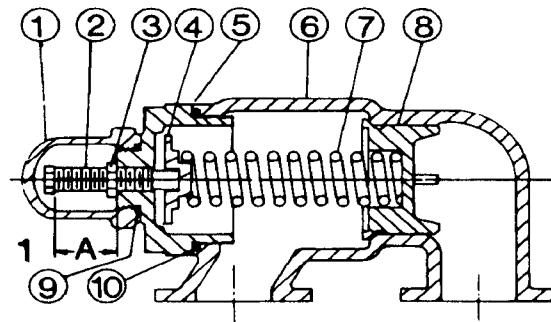

FIGURE 21
2. Measure and record length of extension of adjusting screw. Refer to "A" on **Figure 21 on page 12**.